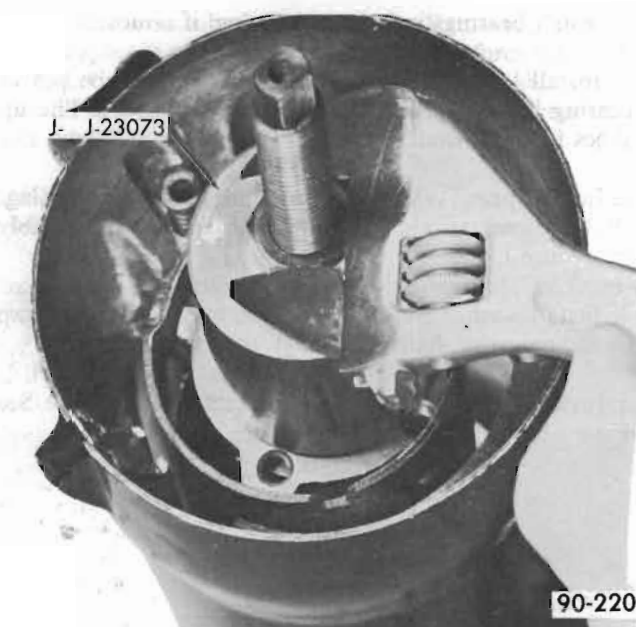

Figure 90-125 - Installing Shift Tube
10. Carefully install shift tube in lower end of mast jacket. Align keyway in tube with key in bowl and using Installer J-23073, pull shift tube into bowl. See Figure 90-125.